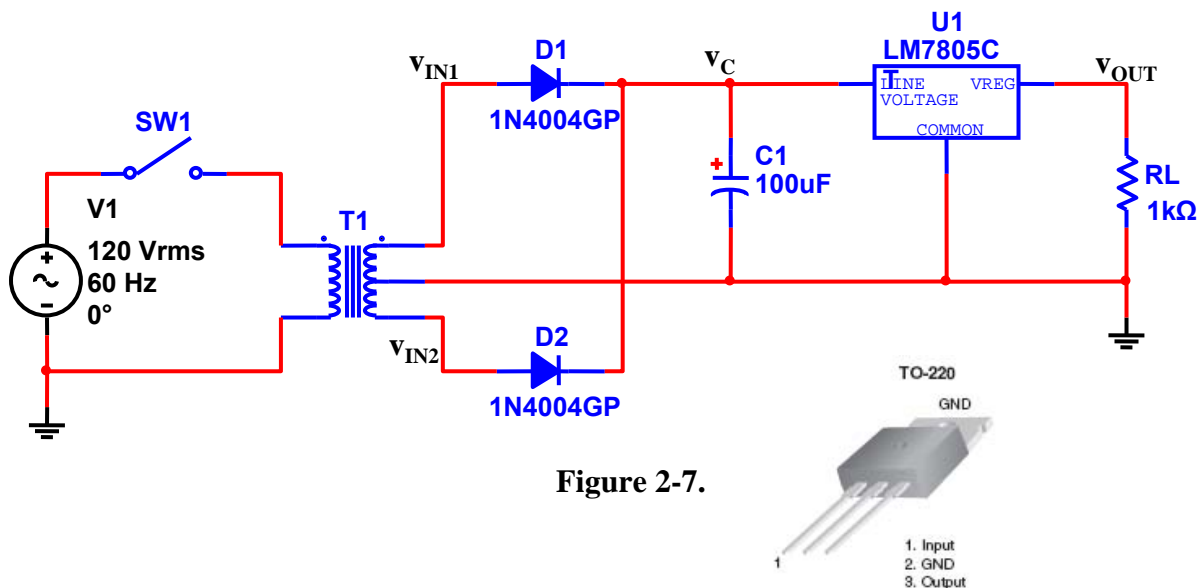

Figure 2-7.
- Figure 2-7: Full-Wave Rectifier Circuit (with cap and LM7805 linear regulator)
- 4.1. Construct the circuit of Fig. 2-7. It is identical to the previous circuit, except that the zener regulator has been replaced by the LM7805 regulator IC.